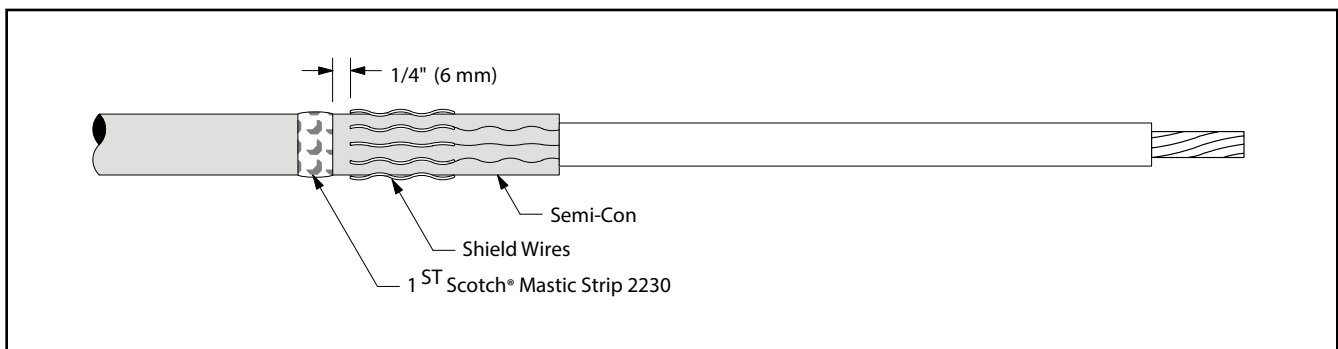

Figure 19
12.1 Select a Scotch® Mastic Strip 2230 from kit and remove white release liners. Using light tension, apply a **SINGLE WRAP** of mastic around the cable jacket 1/4" (6 mm) from shield wires (Figure 19). Cut off excess.